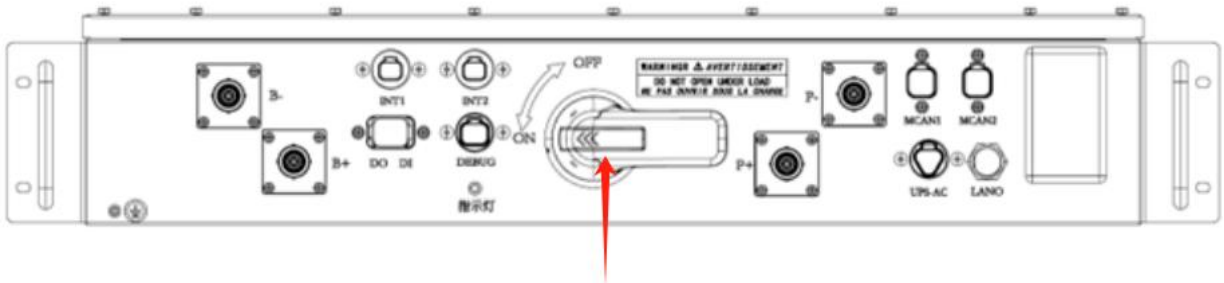
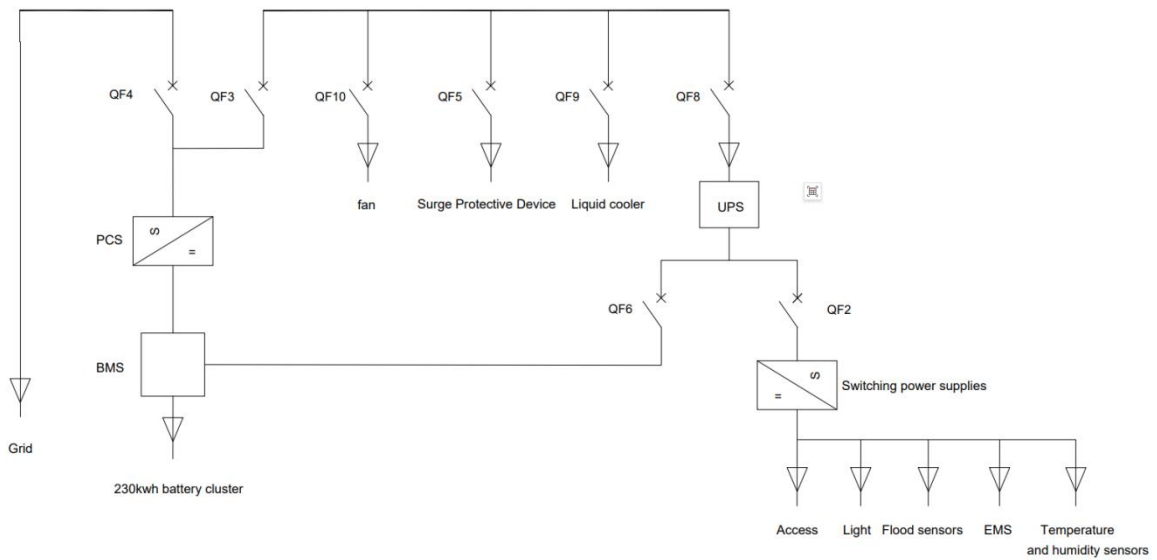

Figure 6.6 Schematic Diagram of High Voltage Box
Figure 6.7 Circuit Diagram of Equipment
Step 5: Close the disconnect switch on the high voltage box as shown in Figure 6.6. The equipment components are energized as shown in Figure 6.7 Equipment Circuit Diagram.
Step 3: Close the disconnect switch on the high voltage box as shown in Figure 6.6.